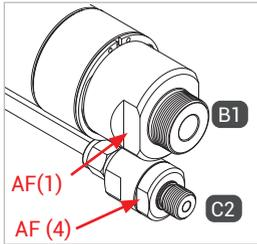
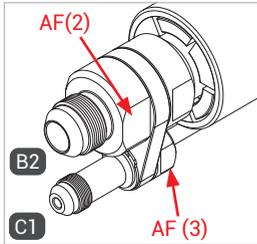

Figure 3
Figure 4
- ▶ When mounting the filling and venting hose, the media line and the gas recirculation onto the ports "B1", "B2", "C1" and "C2", hold an open-ended wrench against the wrench flat AF(1), AF(2), AF(3) and AF(4) (Figure 3 and Figure 4).
- ▶ Connect the media inlet "B1" to the media hose line of the fueling station (Figure 3) pressure-tight. See the table below for information regarding tightening torque.
- ▶ Connect the gas recirculation "C2" to the gas recirculation of the fueling station (Figure 3) pressure-tight. See the table below for tightening torque.
- ▶ Screw the media outlet „B2" pressure-tight to the connection of the filling hose (Figure 4). Tightening torque see table below.
- ▶ Screw the gas recirculation "C1" onto the connection of the venting hose (Figure 4) pressure-tight. See table below for tightening torque.